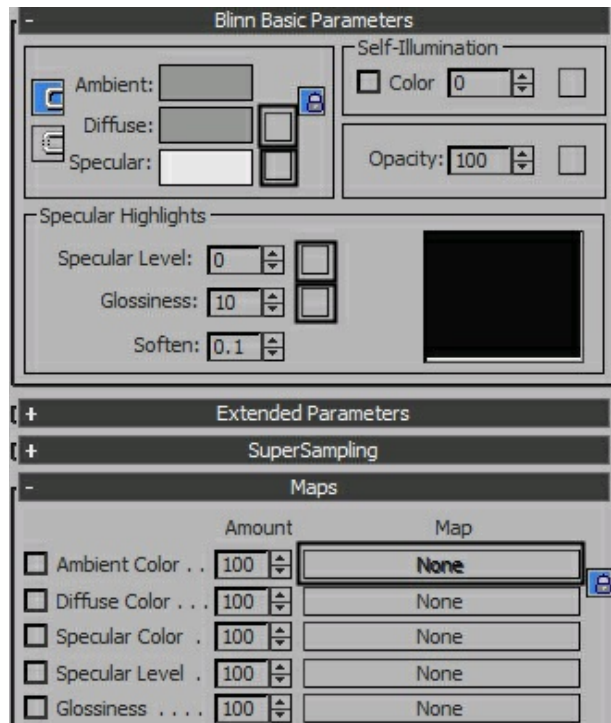

Figure 7-74 The square buttons highlighted for inserting maps
To assign a map to the material, choose **Modes > Compact Material Editor** from the material editor menu bar; the **Material Editor** dialog box will be displayed. Select one of the sample slots in the **Material Editor** dialog box to activate it. Now, in the basic parameters rollout of the selected material, choose the small square buttons on the right of the parameters available, refer to Figure 7-74; the **Material/Map Browser**
*You can also assign maps using different options such as **Ambient Color**, **Diffuse Color**, **Specular Color**, and so on to a material using the **Maps** rollout in the **Material Editor** dialog box. You need to choose the buttons on the right side of the options that are labeled as **None**, refer to Figure 7-74.*